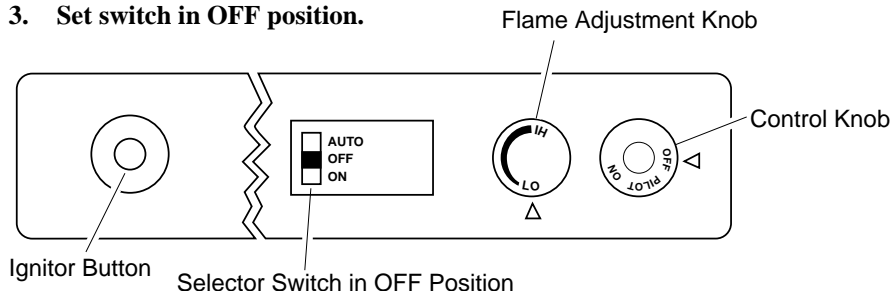

Figure 19 - Control Knob and Ignitor Button Location (Shown as Supplied, No Control Options)
5. Wait five (5) minutes to clear out any gas. Then smell for gas, including near the floor. If you smell gas, **STOP!** Follow "B" in the safety information. If you don't smell gas, go to the next step.
6. Press in and turn control knob counterclockwise  to the PILOT position. Press in control knob for five (5) seconds (see Figure 19).